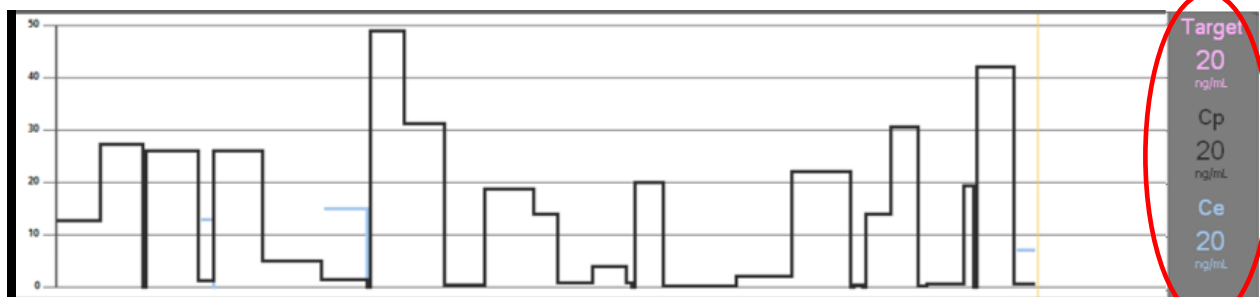

Fig 21
*The events list (Fig 21 **A**) refers to the association of a given pump with a specific drug. Therefore, if a new drug is associated to a given pump, the event list starts all over again. The new combination is a new entity for “Infusion”.*